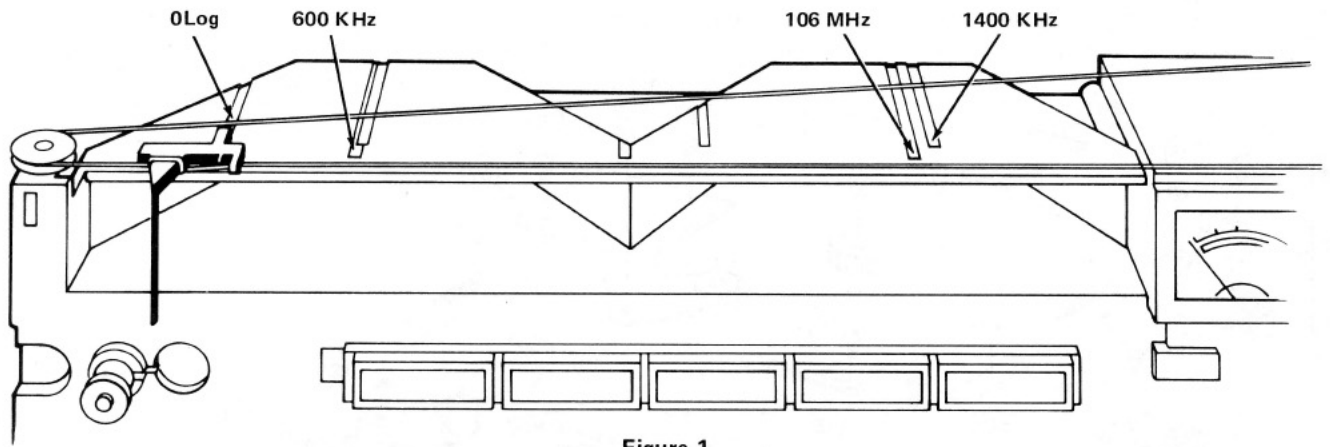

Figure 1
NOTE: Before attempting any alignment, check to make sure that the dial pointer lines up with the 0 Log marker on the dial background when the tuning gang is completely closed. See Figure 1.
3. Set the dial pointer of the radio to the 600 KHz calibration point on the dial background (see Figure 1).
5. Set the RF generator for a modulated 1400 KHz signal and set the dial pointer to the 1400 KHz calibration point (see Figure 1).
2. Set the radio dial pointer to the 106 MHz calibration mark (see Figure 1).